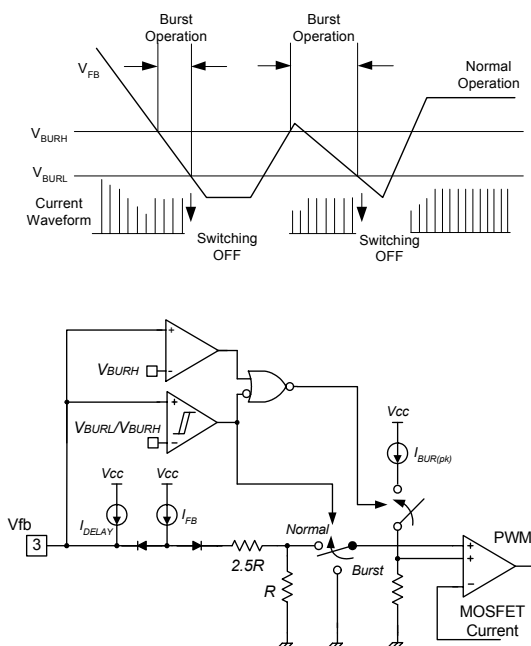

Figure 9. Burst Operation Function
6. Burst Operation : In order to minimize power dissipation in standby mode, the FPS enters burst mode operation. As the load decreases, the feedback voltage decreases. As shown in Figure 9, the device automatically enters burst mode when the feedback voltage drops below V_{BURH} (600mV). Switching still continues but the current limit is set to a fixed limit internally to minimize flux density in the transformer. The fixed current limit is larger than that defined by $V_{FB} = V_{BURH}$ and therefore, V_{FB} is driven down further. Switching continues until the feedback voltage drops below V_{BURL} (350mV). At this point switching stops and the output voltages start to drop at a rate dependent on the standby current load. This causes the feedback voltage to rise. Once it passes V_{BURH} (600mV), switching resumes. The feedback voltage then falls and the process repeats. Burst mode operation alternately enables and disables switching of the power Sense FET thereby reducing switching loss in Standby mode.